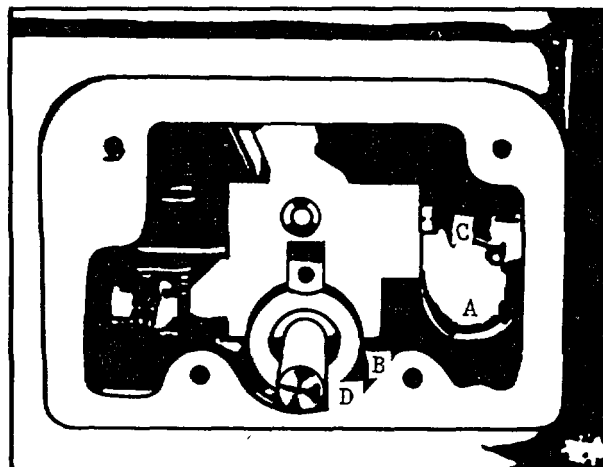

Fig. 22
2. Move the flat spring (\) Fig. 22, up or down until there is equal clearance between the dog plate (B) and the cam (D). The spring is moved up or down by loosening screws (C) which holds one end of the spring against the headstock body casting.